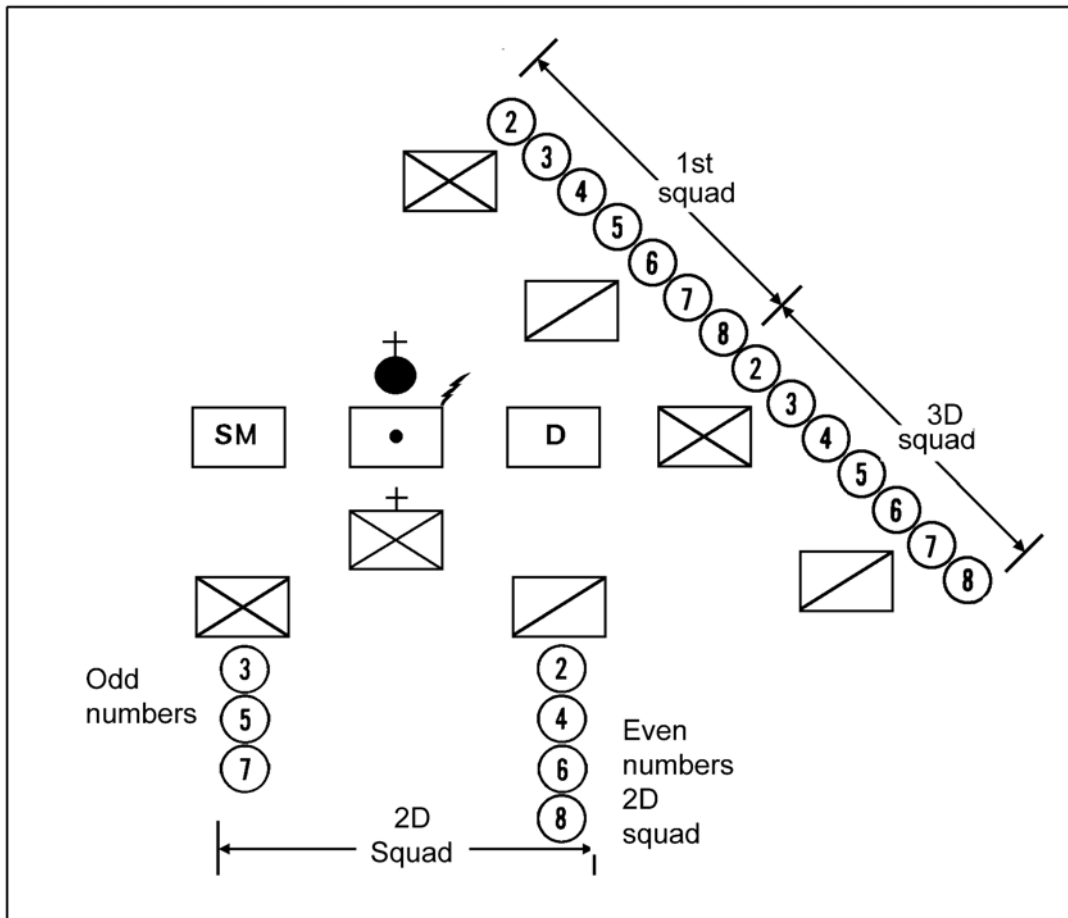

Figure 191-379-5400-7
6. Form the platoon in a platoon echelon, right (or left) with one support squad in general support the same as with the line (Figure 191-379-5400-7).